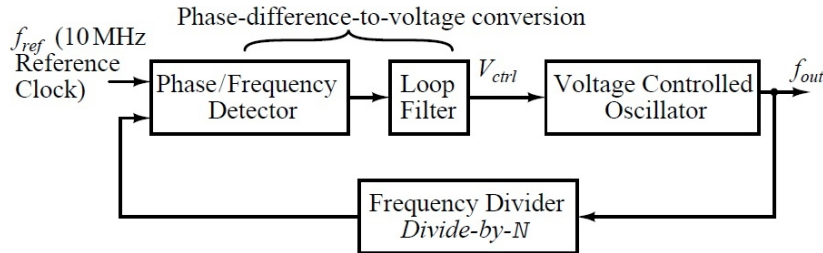

Figure 4: The block diagram of a PLL used as a frequency synthesizer.
- (b) **The Phase Locked Loop (PLL) for Frequency Synthesis:** The on board PLL generates the LO signal for modulation or upconversion of the baseband signals. The input to the PLL is a fixed 10 MHz clock (also known as the reference frequency f_{ref}) coming from an on-board crystal oscillator. The PLL IC has a voltage controlled oscillator (VCO) followed by a configurable frequency divider of division ratio N , as shown in Fig. 4. The feedback loop in the PLL ensures that the frequency divider output phase (and hence frequency) exactly matches the reference clock phase (and frequency). The phase error is basically determined by the time difference between the rising edges of the reference clock and the frequency divider output, and should be practically zero when the PLL is locked. For a given f_{ref} and N , the VCO output frequency in the locked PLL is $f_{out} = N \cdot f_{ref}$ (prove it yourself). The frequency division factor N is always >1 , but it is possible to achieve effectively a non-integer value of N using some tricks (discussion on which is beyond the scope of this material).